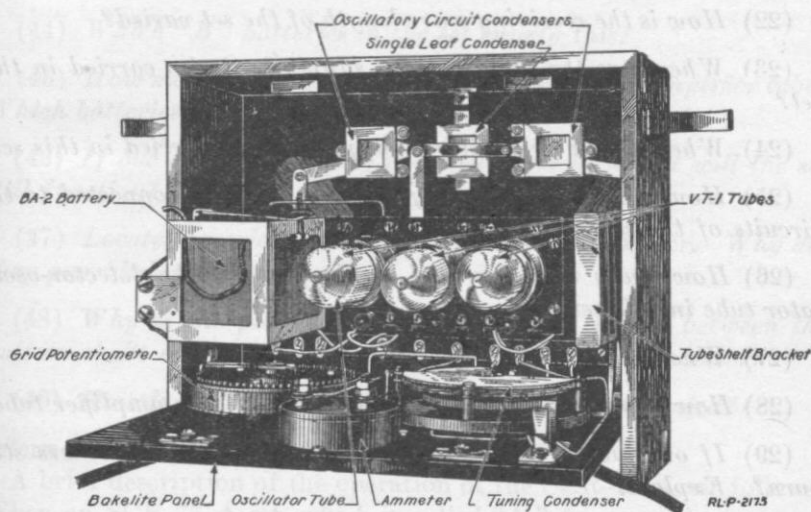

Fig. 100.—Front panel of set box, BC-9, lowered to show interior parts.
e. Let down the front cover of the set box all the way and open the panel. (See Fig. 100.) Place a BA-2 battery in the compartment attached to the panel and connect the leads from this battery to the two binding posts on the side of the compartment with the polarity as marked. Place two VT-1 tubes in the two amplifier tube sockets.